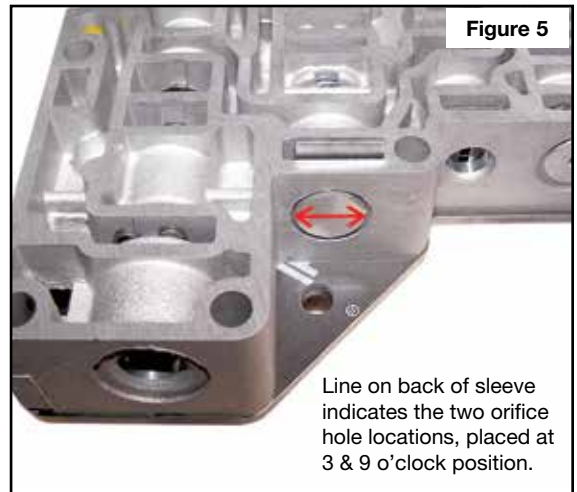

Figure 5
Step 4 Replace Bypass Clutch Control Valve Plunger, Sleeve & Spring (Figure 5)
- Install Sonnax orange spring and plunger valve and sleeve assembly into bore and draw a line on the back of the sleeve indicating the two orifice hole locations and place at the 3 and 9 o'clock position (Figure 5).